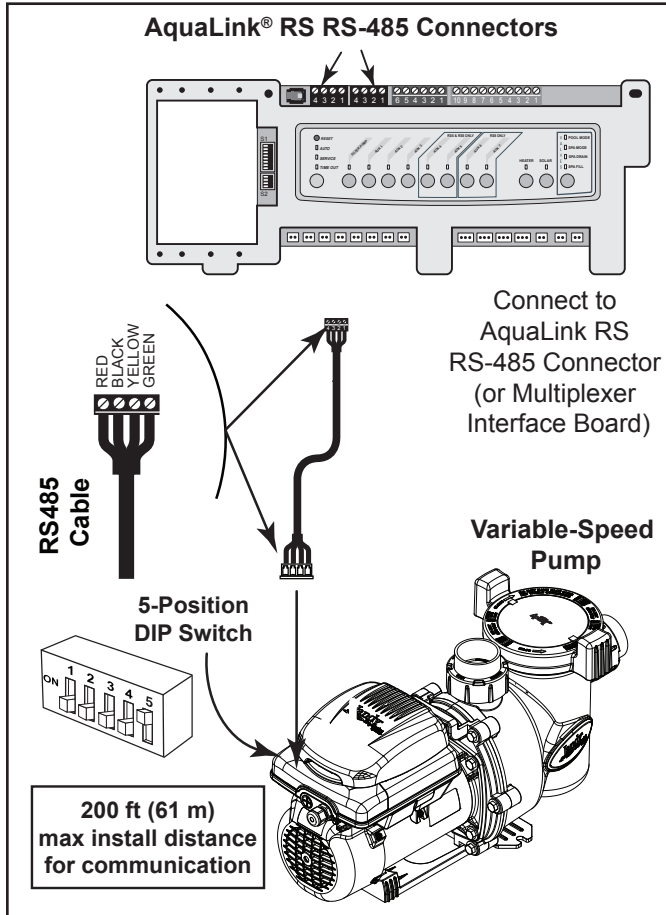

Figure 7. Wiring AquaLink RS Controller or AquaLink PDA to VS-FHP1.0 Pump
2. Remove the one (1) screw and access cover to complete electrical connections to the motor.
3. For the VS-FHP1.0, slide dip switches 1 and 2 down to the OFF position, and 5 up to the ON position. See Figure 7.
6. Connect the new RS-485 cable from the AquaLink through the available compression fitting and route the 4-conductor cable through the motor drive threaded port closest to the connector. Figure 7.
7. Connect the other end of the cable to an RS-485 connector on the AquaLink® RS (or multiplexer interface board), matching wire colors with connector positions as follows: 1-red, 2-black, 3-yellow, and 4-green. See Figure 7.
7. Secure the pocket cover and gasket with six (6) screws to the variable-speed controller base on the motor.
8. Remove the one (1) screw and access cover to complete electrical connections to the motor.
10. Prepare the cable and attach another 4-pin connector, ensuring the wire colors match Figure 7.
13. Verify the DIP switch settings match Figure 7.
As shown in Figures 7, 9, 10 and 11, the 4- or 5-position dip switch is located at the rear of the VS FloPro pump. This dip switch serves two (2) functions: it selects the pump address, and it determines what type of controller will be used with the pump.